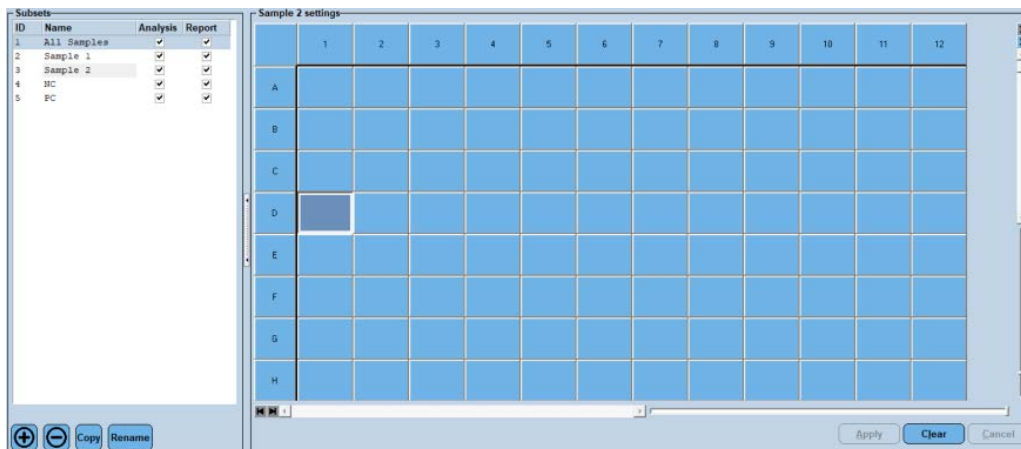

Figure 6. Sample information setup using LightCycler 480 Software Release 1.5.0.
- Input sample information as shown in Figure 6, including negative control (NC) and positive control (PC). Assign sample information to the well location on 96 well plate.